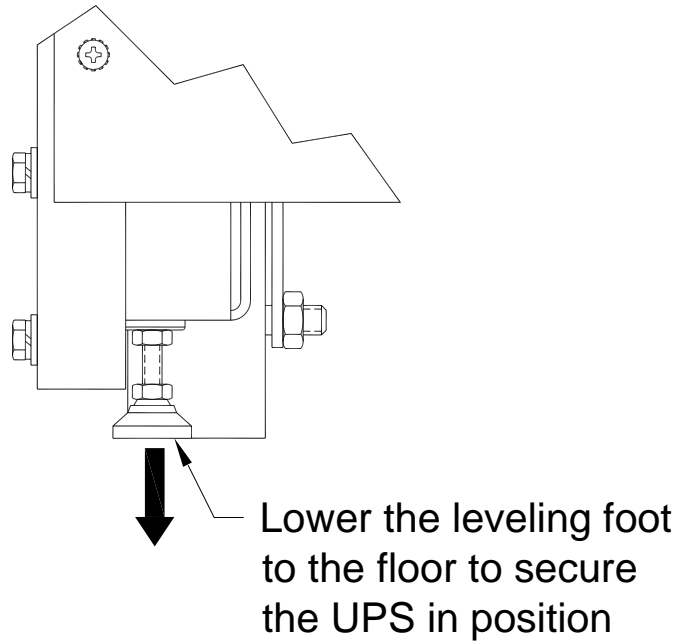
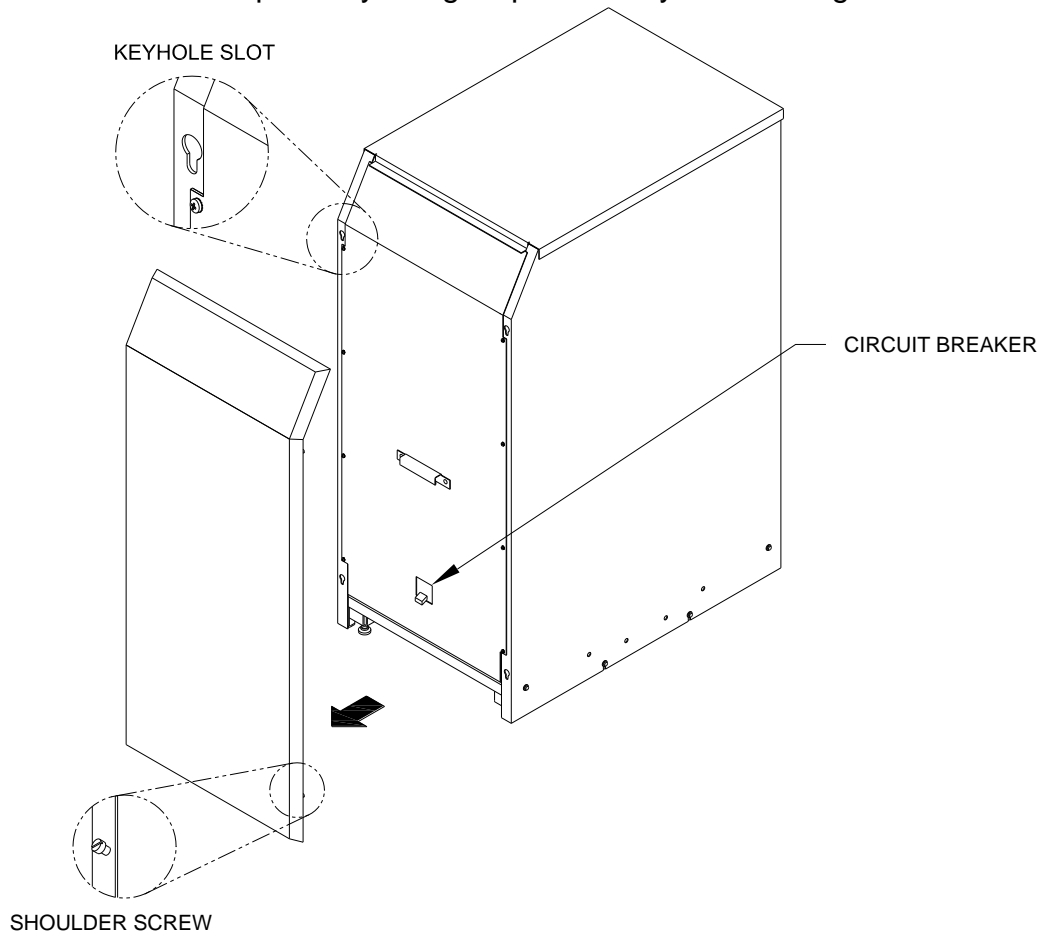

Figure 6 - Leveling foot being adjusted down to the floor
Figure 10 - Removing the Battery Cabinet Front Panel
Once the cabinet has been rolled into position, remove the front panel to access the front leveling feet by pulling the panel outward at the bottom of the unit until it unsnaps and then lift up and off the cabinet (see figure 10). Adjust the leveling feet as shown in figure 6.
- a. Remove the front panel by lifting it up and away. Refer to figure 10.